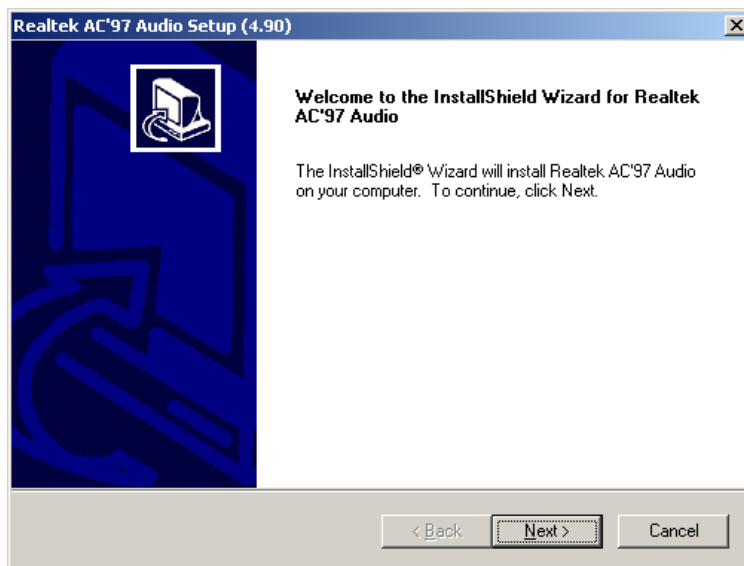

Figure 7-42: InstallShield Wizard Welcome Screen
Step 9: Once initialized, the **InstallShield Wizard** welcome screen appears (**Figure 7-42**).